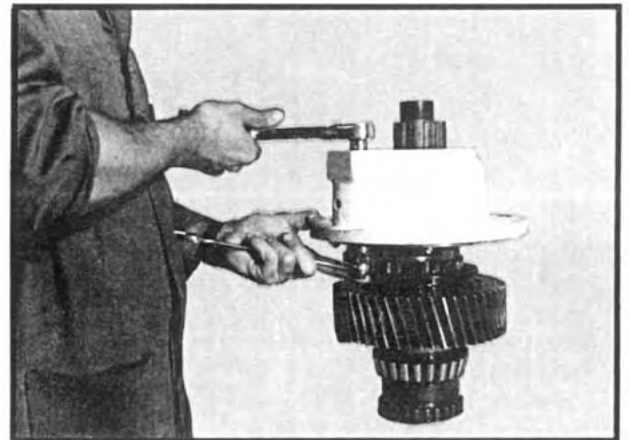

Fig 23
2. Remove the (4) cap screws securing the shift cylinder cap to the carrier. Remove the cap and the nylon piston stop ring. Discard the cap O-ring.
3. Remove the piston retaining locknut and washer. A wrench on the shift fork unit may be necessary to prevent the shaft from turning. See Figure 23.